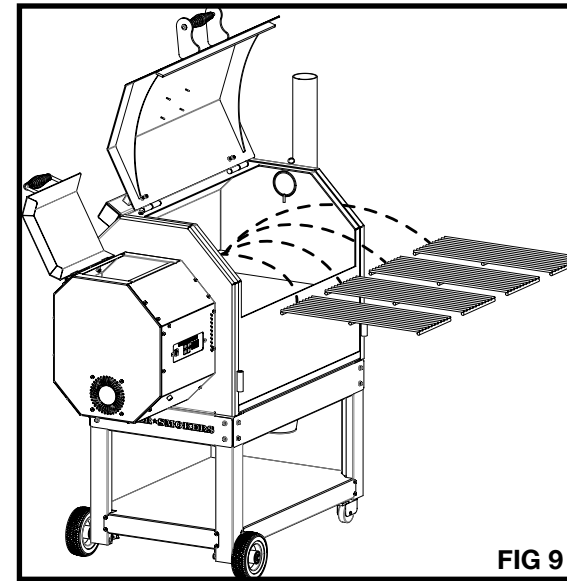

FIG 9
8. Reinstall the cooking grates and optional second shelf (See FIG 9).